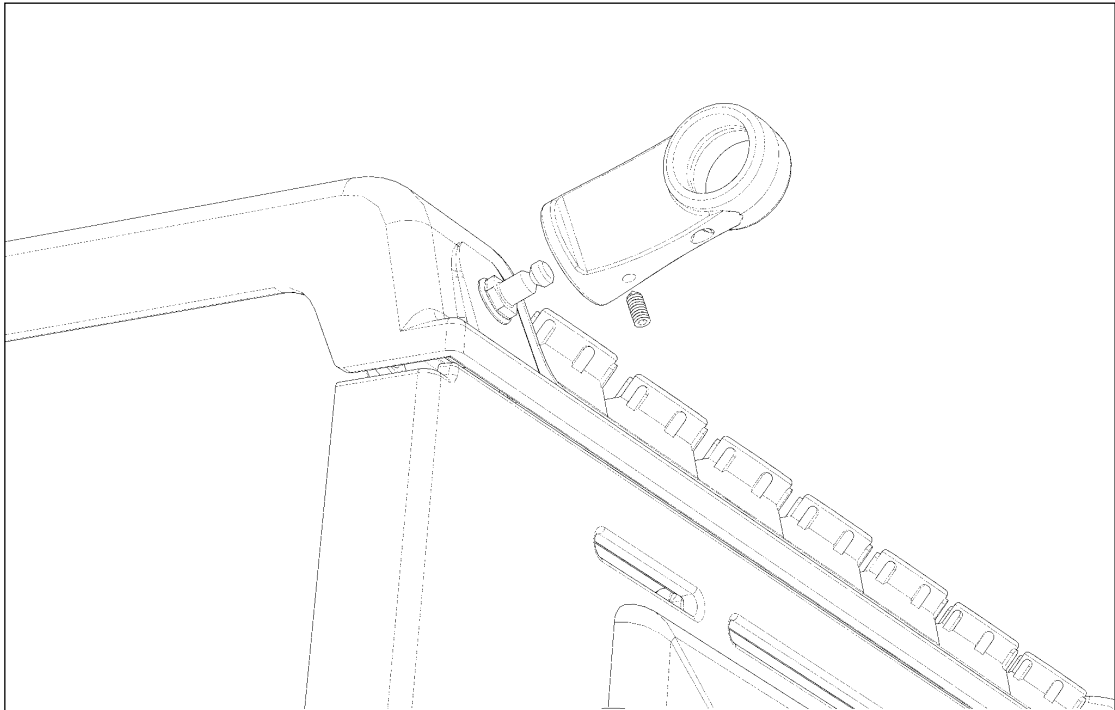

Fig. 13
12. Fit the Module handrail bracket over the fixing stud located on the top plate. Lock into position by tightening the grub screw nearest the appliance. (See Fig. 13).